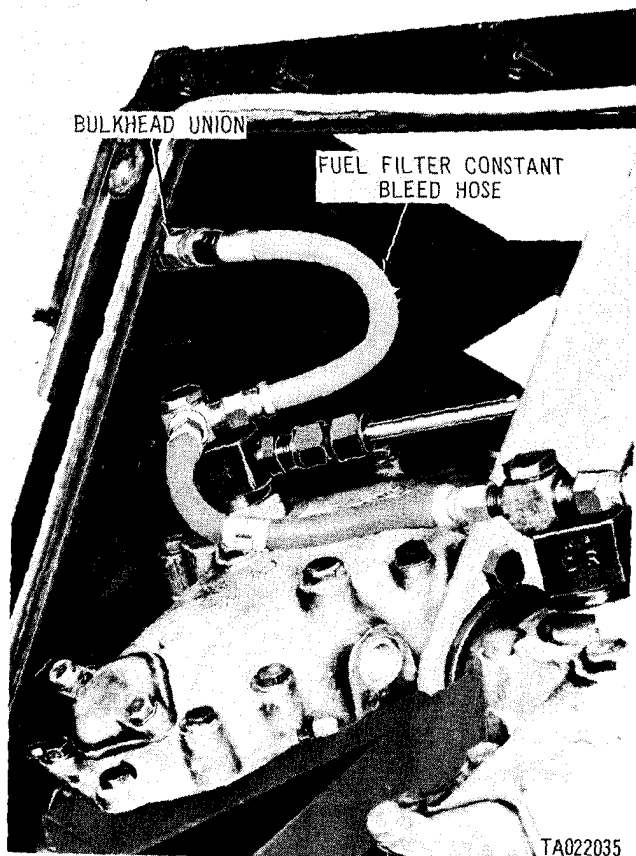

Figure 3-13. Removing or installing fuel filter constant bleed hose.
(1) Disconnect fuel filter constant bleed hose (fig. 3-13) from bulkhead union,